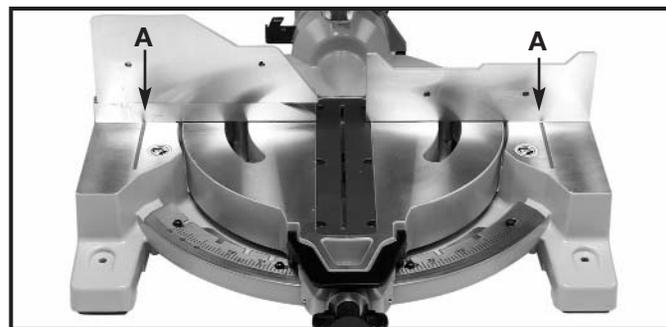

Fig. 21
⚠ WARNING The area inside the two red lines (A) Fig. 21 on the table is designated as a hazard zone. Never place your hand(s) inside the "Table Hazard Zone" (within the red lines) **WHILE THE TOOL IS BEING OPERATED**. Clamp all workpieces which would cause your hand(s) to be within the red lines.
▲WARNING If the size of the workpiece causes your hand to be inside the table hazard zone (see section “TABLE HAZARD ZONE” SEE FIG. 21), use a clamp to secure the workpiece.